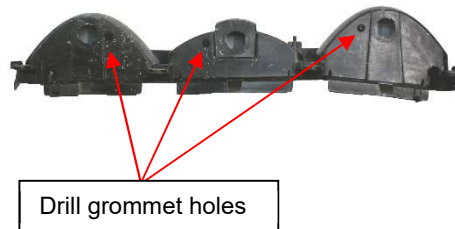

Figure 1
2. For each Taillight housing, drill 1 – 5/16" hole on the bottom surface of each Taillight housing. (See Figure 1) The exact location of each hole is not critical. Then install provided rubber grommet into the drilled hole. One method to simplify installation is to pinch grommet, insert protruding edge into the hole, then use a small flat blade screwdriver to push/work the remaining edge through the hole.